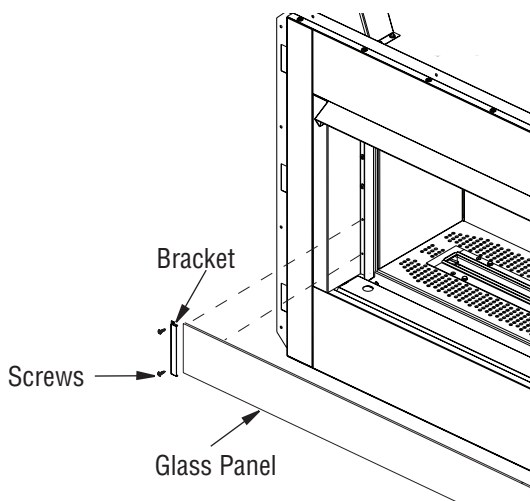

Figure 25a - Installing/Removing Glass Panel
The glass panel assembly should be installed after the fireplace is completely framed and finished. The brackets are attached to the front side face of the fireplace using two screws as shown in **Figure 25a**. Position the glass panel in the bracket so that it is securely in place.
3. Remove glass panel if installed (see **Figure 25a**).